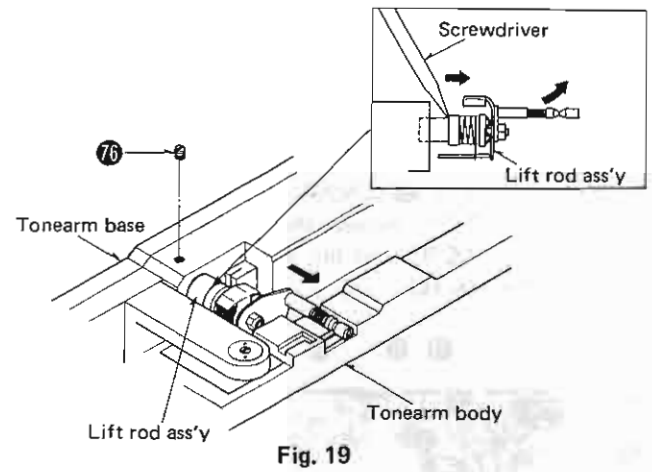

Fig. 19
2. Remove the setscrew 76 of the lift rod assembly. (See Fig. 19)
3. Press the outer periphery of the lift rod with a screwdriver as shown in Fig. 19.